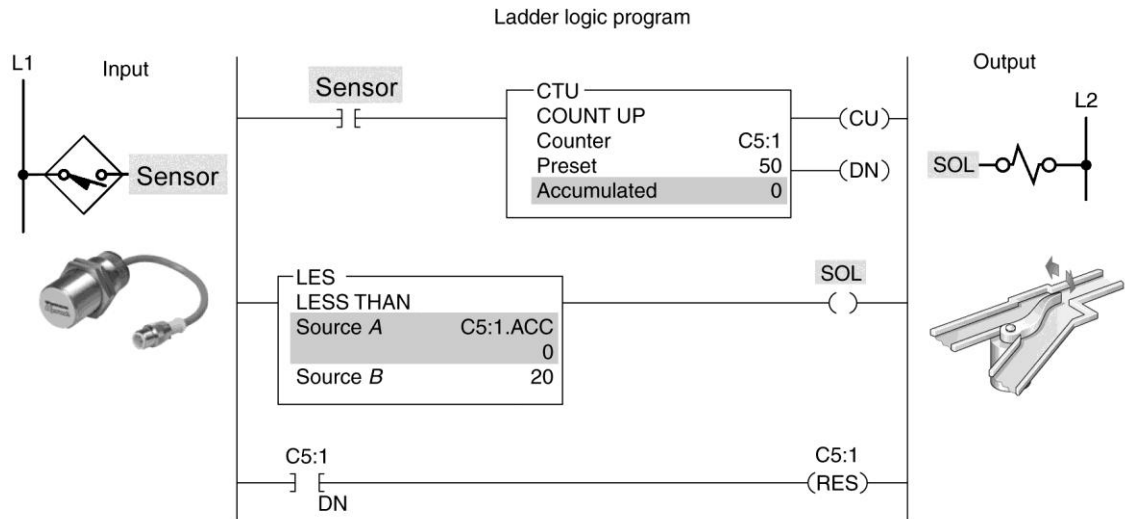

Figure 10-30 Counter program for assignment 6.
6) A counter program implemented using the LES instruction is shown in Figure 10-30 and described in the text. Prepare an I/O connection diagram and ladder logic program that will simulate its operation. Use addresses that apply to your PLC installation. Enter the program into the PLC, and verify its operation.